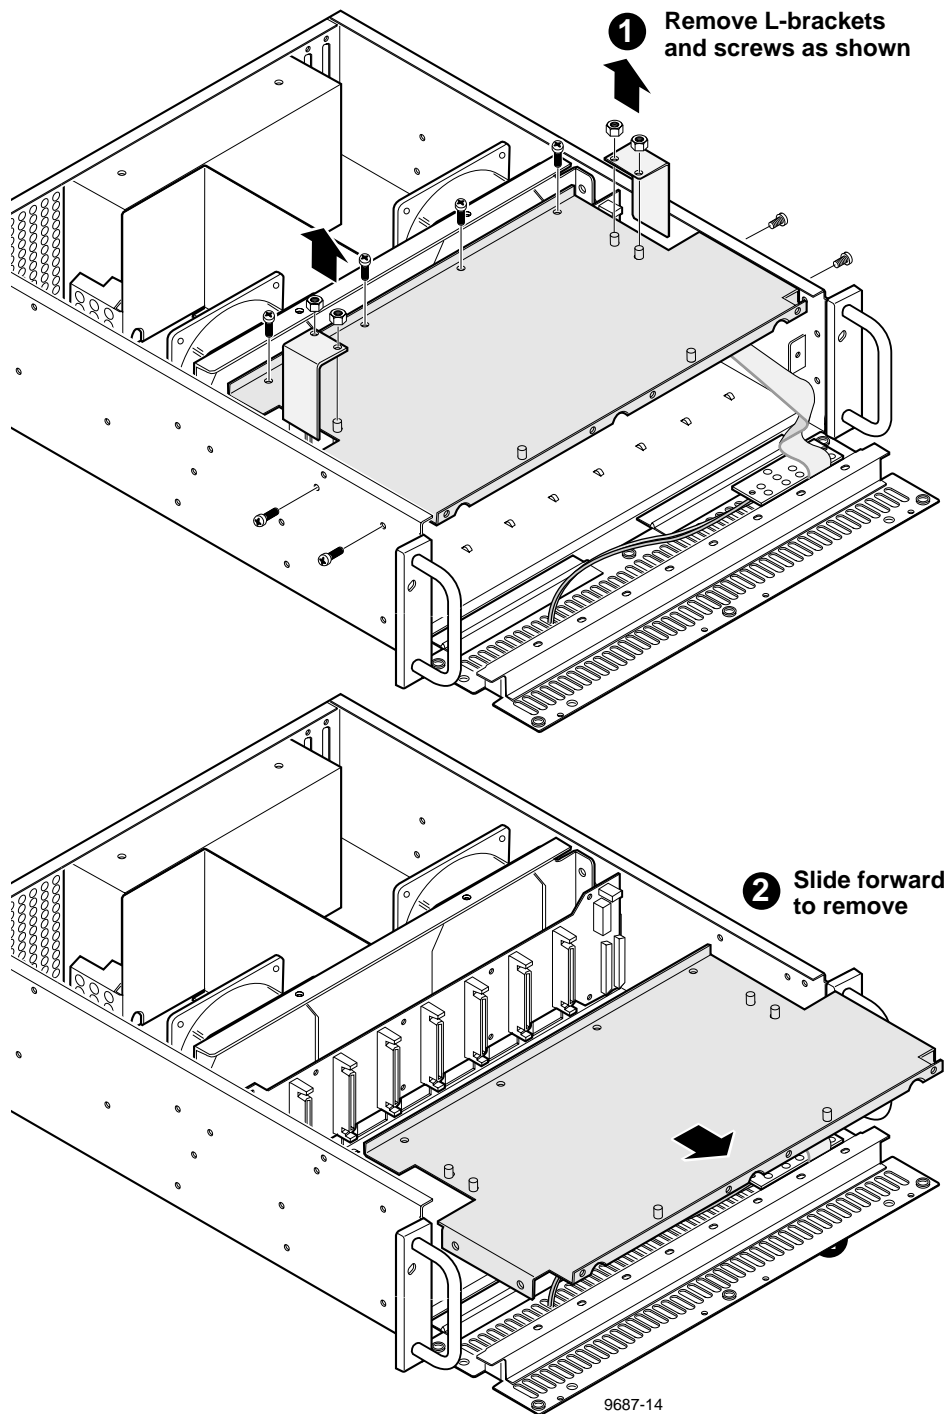

Figure 3-9. PDX208 Disk Tray Cover Removal
Figure 3-9 shows removal of the disk tray cover, which must be removed to gain access for removal of other parts.
6. Remove the screws and L-brackets, one on each side (Figure 3-9).
1. Slide the Disk Tray cover in through the front of the chassis and secure with the screws previously removed (Figure 3-9).
3. Remove the Disk Tray cover (Figure 3-9).
3. Install the Disk Tray cover (Figure 3-9).
4. Install the Disk Tray cover (Figure 3-9).
2. Remove the top cover (Figure 3-9).